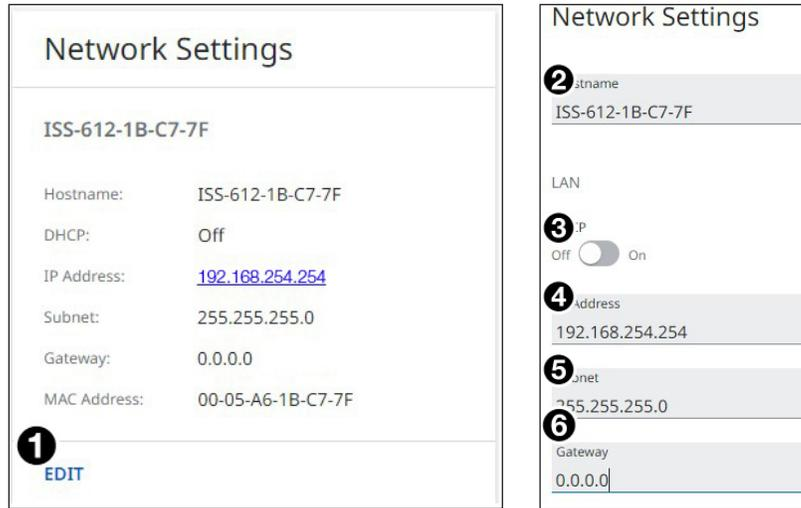

Figure 44. Network Settings Panel
1. Click **EDIT** (see figure 44 [left], ❶) in the **Network Settings** panel. The **Network Settings** panel opens to allow edits (right).